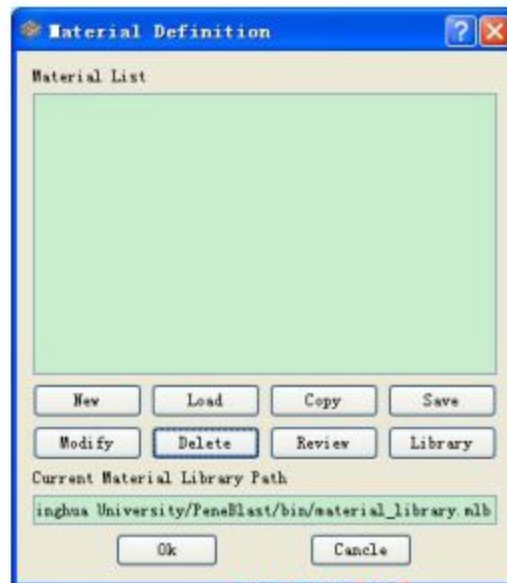

图 5.3: Material Definition dialog box
1. Models-> Material pops up as shown in Figure 5.3;